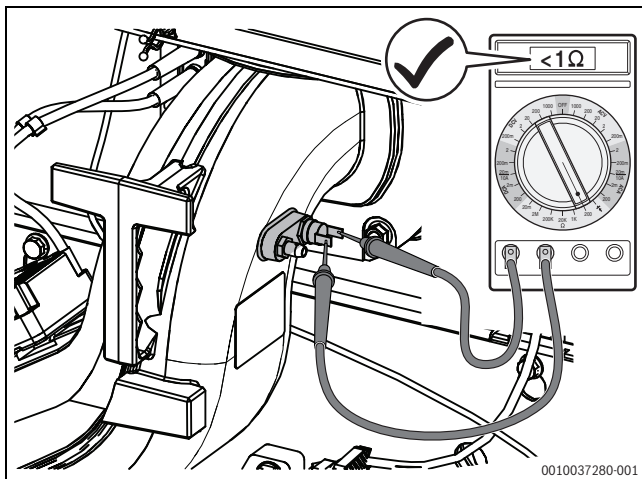

Fig. 83 Measure the electrical resistance across the contacts of the temperature switch (temperature switch ok)
- ▶ Measure electrical resistance across the contacts of the temperature switch (→ Fig. 83).